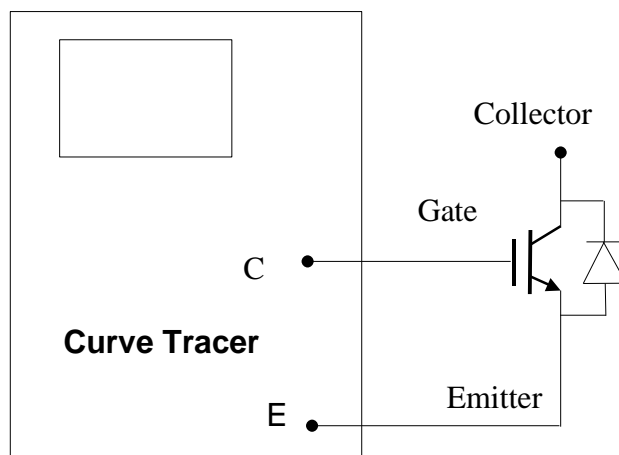

Figure 1: Schematic of the gate test
2. Connect the emitter and the gate pin of IGBT to **C** and **E** plugs in the probe terminals of the curve tracer as shown in figure 1 and 2.